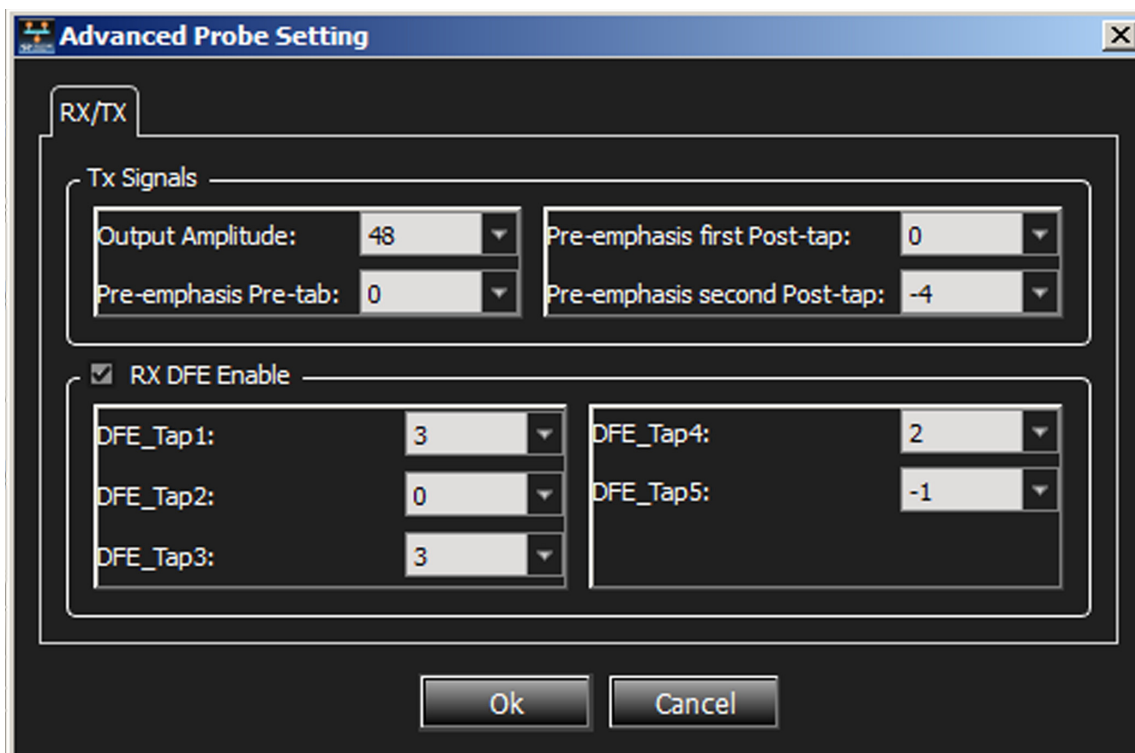

Figure 2.23: Advanced Probe Setting dialog for 40 GigE device.
- ❑ Advanced: Selecting **Advanced** displays the Advanced Probe Setting dialog. (See Figure 2.23.) Enter the desired values for each of the parameters.